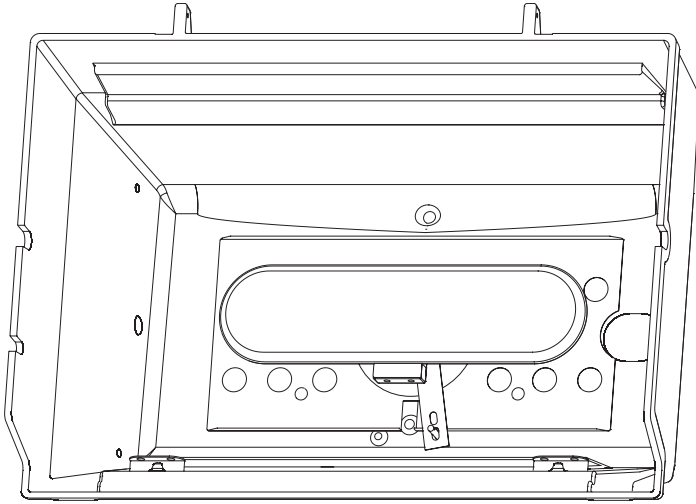

Figure 13
- Raise the unsecured end of the burner bracket and slip it over the 1/4-20 x 1 1/2 Phillips Truss Head Screw as shown in Figure 13. The screw will fit into the hole on the burner bracket.